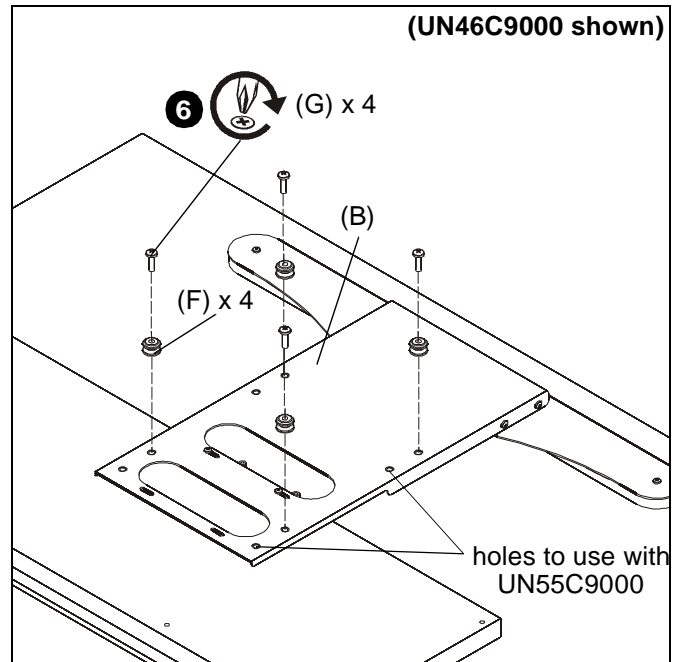

Figure 2
6. Attach four mounting buttons to lower adapter bracket using four M6x20mm Phillips pan machine screws (G). (See Figure 2)